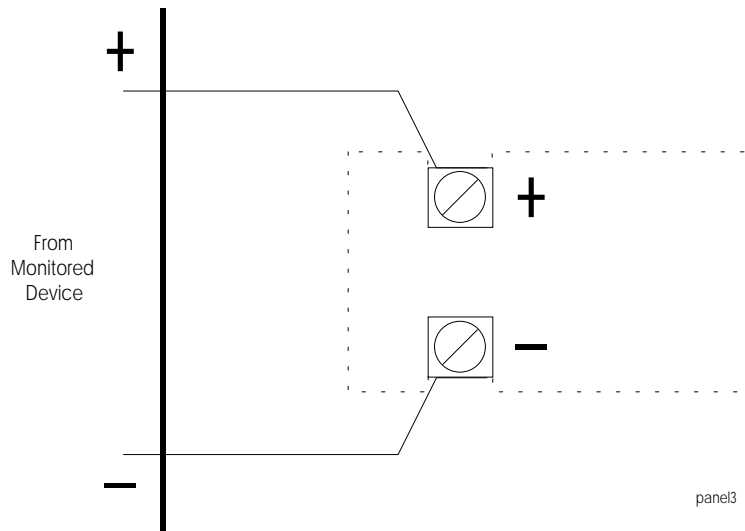

Figure 2: RA400Z Proper Terminals
2. Polarity of the incoming wires must be observed and connected to the proper terminals “+” and “-” (Figure 2).